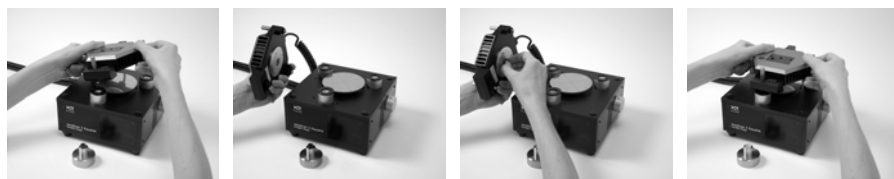

Figure 3-6: Attaching the Cantilever Holder
- ① Pick up the scan head with two hands (*Figure 3-6: Attaching the Cantilever Holder, left*).
- ② Turn the scan head to one side, firmly holding it in one hand (*Figure 3-6: Attaching the Cantilever Holder, left center*).
- ③ Pick up the Cantilever Holder from the Cantilever Exchange Tool with your other hand, and bring the Cantilever Holder near the Scan Head Deflection System (in the center of the metal disc on the bottom of the Scan Head) to allow it to snap on (*Figure 3-6: Attaching the Cantilever Holder, right center*).
- ④ Place the Scan Head back on top of the Sample Stage (*Figure 3-6: Attaching the Cantilever Holder, right*).